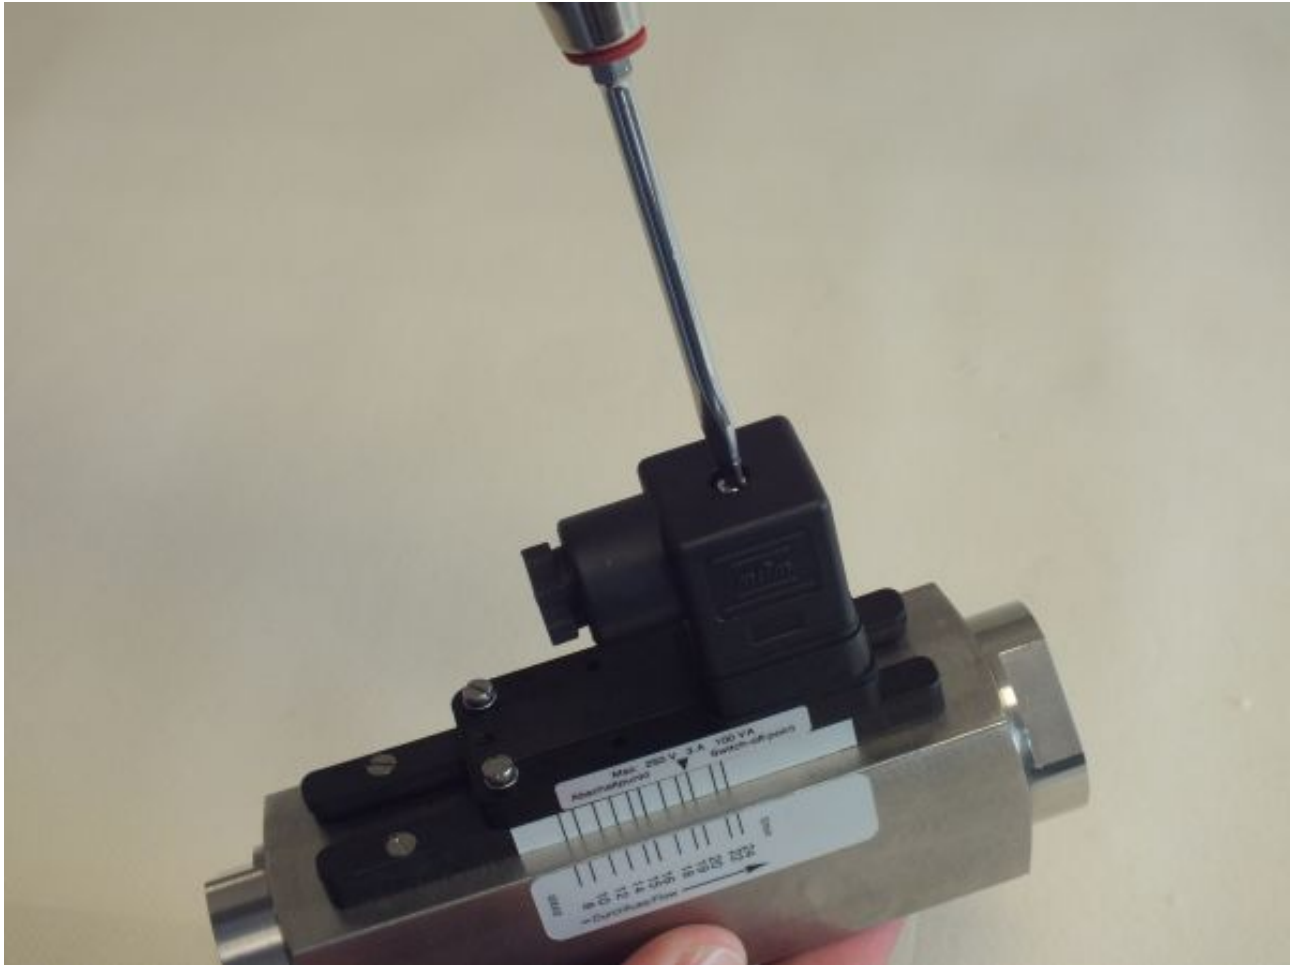

Fig. 28: Detach socket
- 1.** ➤ Release the fixing screw from the socket (*Fig. 28*)
- 9.** ➤ Plug the socket onto the connection plug and tighten the fixing screw (*Fig. 28/1*)